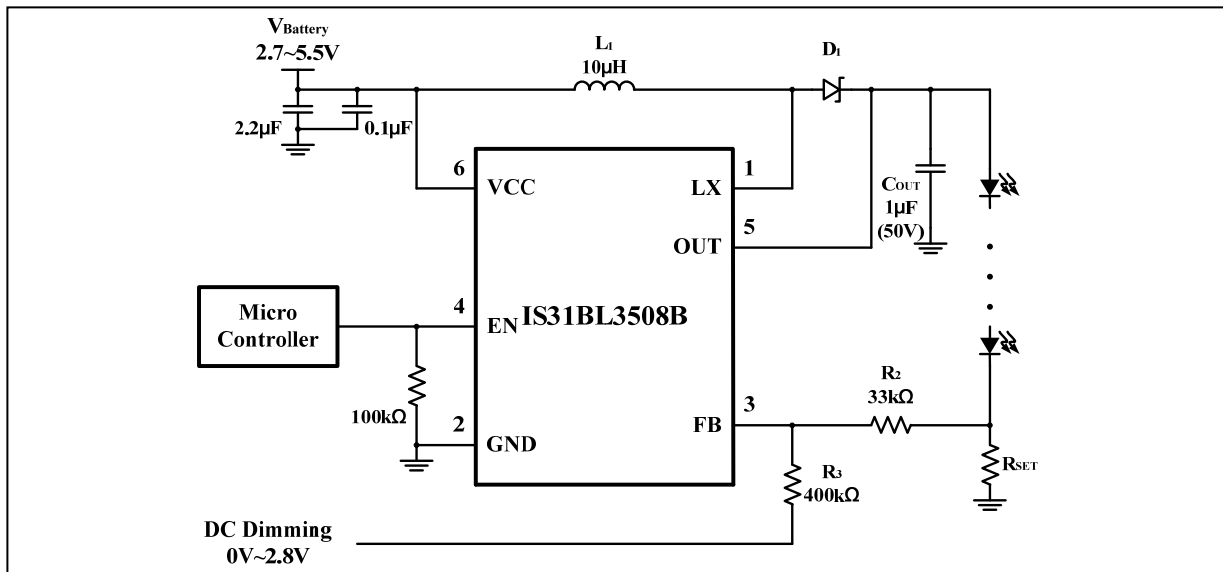

Figure 5 Constant output current with DC dimming input
The schematic of Figure 5 show an example of using a DC input voltage at the FB pin to implement LED dimming. When the DC input voltage increases, the current through R₂ and R₃ increases producing an offset voltage across R₂, thereby causing the LED current to be reduced. The LED current may be computed using the following Equation (3). V_{FB} is 0.2V (typ).